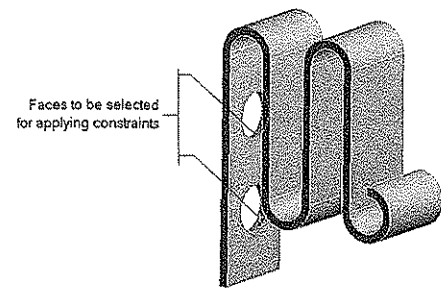
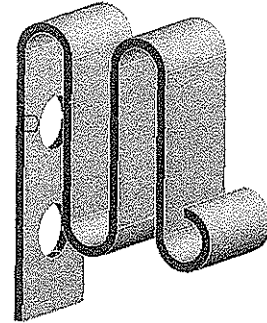

Figure 9-45 Faces to be selected for applying constraints
Figure 9-46 Model after the boundary conditions are applied
- 5. Select two circular faces of the holes on the model, as shown in Figure 9-45. Next, choose the **Apply** button in the **Geometry** selection box; the selected faces turn purple indicating that **Fixed support** is applied, refer to Figure 9-46.